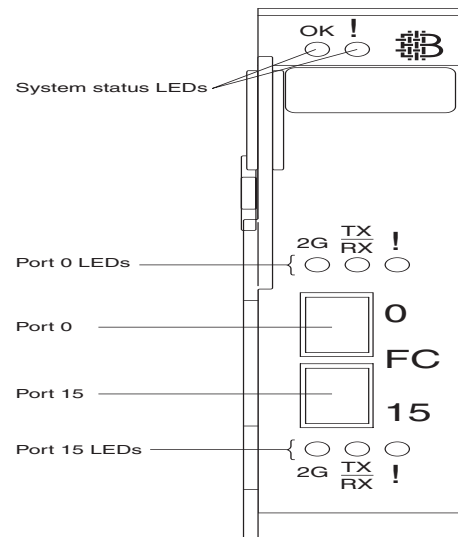

Figure 8. Fibre Channel switch-module information panel
The switch-module information panel contains LEDs and two Fibre Channel ports, as shown in Figure 8.
- Two external Fibre Channel connectors to connect Fibre Channel devices, such as disk subsystems, tape drives, and other servers; and SAN devices, such as Fibre Channel switches, extenders, and gateways. These connectors are identified as port 0 and port 15 in the switch configuration menus and are labeled 0 and 15 (from top to bottom) on the switch module, as shown in Figure 8.